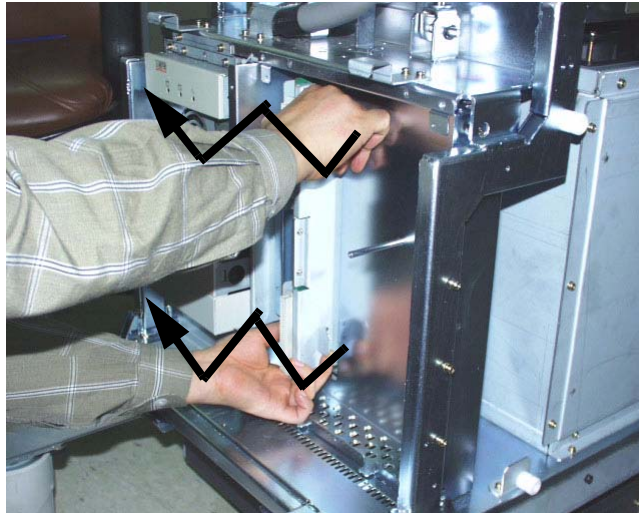

Figure 8-116 Pulling Out LMT Board
- 3.) Pull the LMT Board out. Refer to Figure 8-116 on page 8-65 ..